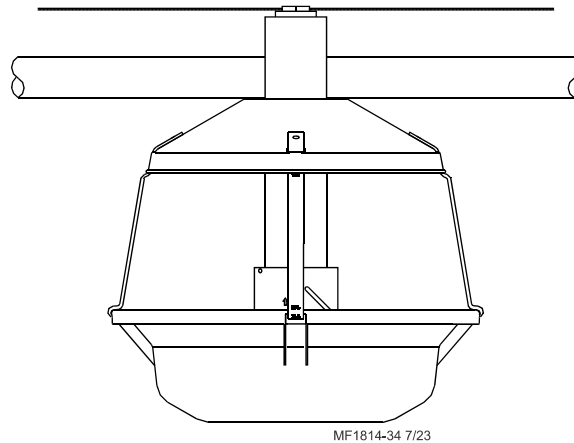

Figure 18. Install Feeders on Tubes
2. Rotate the feeder Tube so that the tab at the outlet hole will pass through the notch in the Drop Tube. Rotate the tube 180 degrees to lock the pans in place, **see figure 18**. Make sure outlet holes are down.